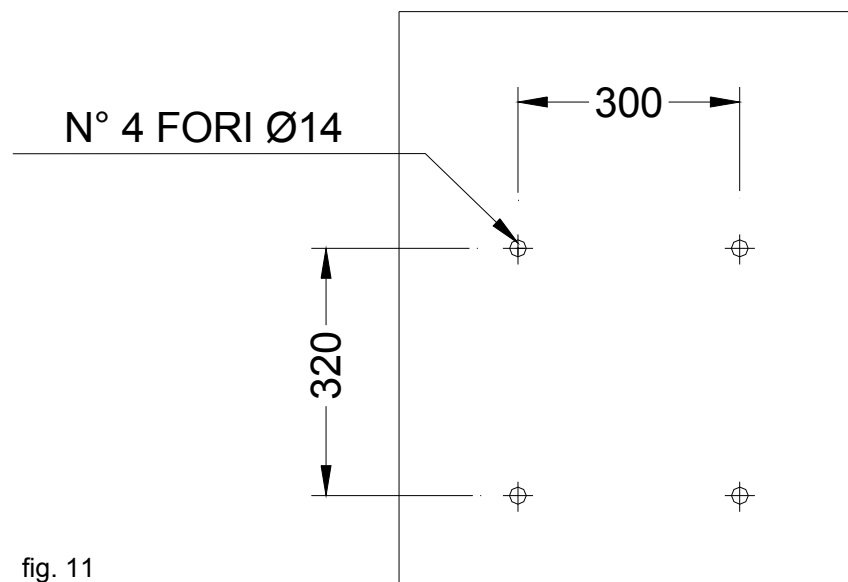

fig. 11
- ✓ Drill the required holes in the chosen wall as illustrated in fig.11.